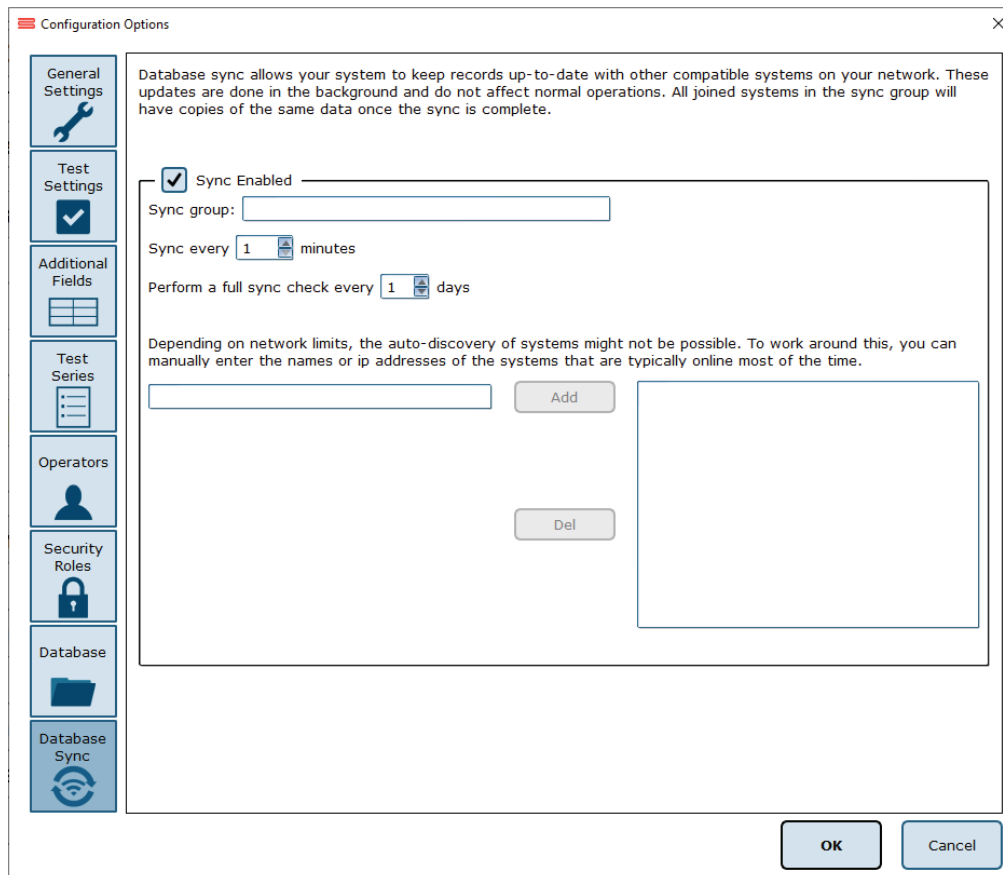

Figure 46: Two-way Merge Options.
2. On the Database Sync page (shown in Figure 46), check the Enable Database Sync box.